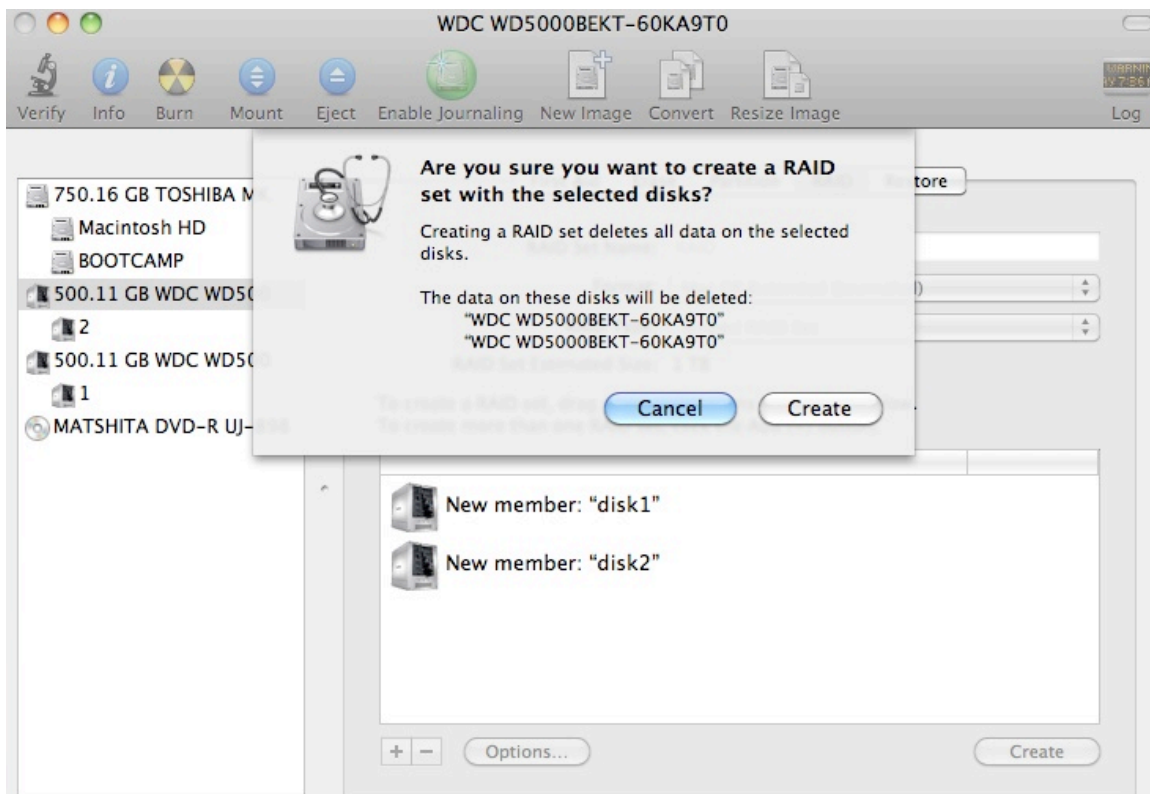

Figure 11: Creating a new RAID volume
10. After reviewing the options selected, click on the *Create* button to initialize the new RAID volume (see Figure 11).